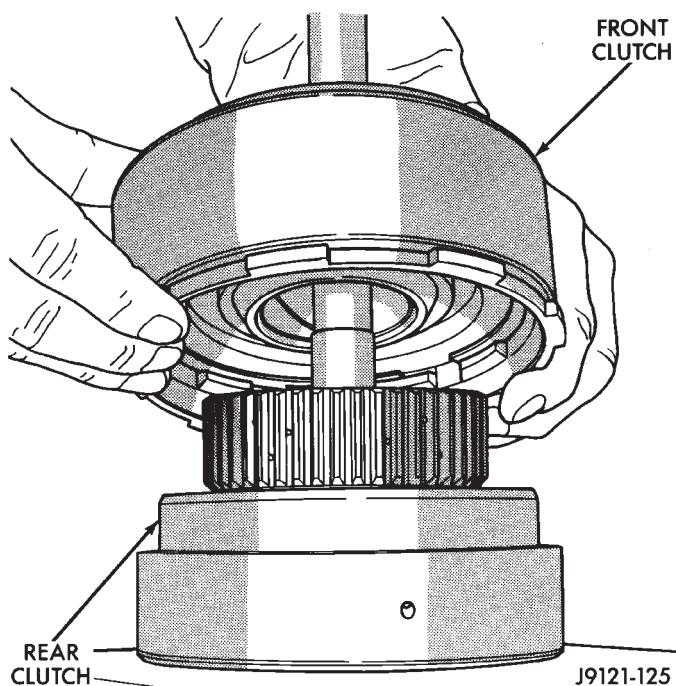

Fig. 19 Separating Front/Rear Clutch Assemblies
- (4) Disconnect and remove both propeller shafts.
- (5) Disconnect vehicle speed sensor and transmission output shaft speed sensor wires.
- (6) Disconnect electrical wires from clips on transmission and transfer case.
- (7) Disconnect transfer case shift linkage at transfer case range lever. Then remove linkage bracket bolts and remove linkage and bracket from transfer case. Move linkage aside for clearance.
- (8) Remove nuts attaching transfer case to overdrive unit gear case.
- (9) Remove transfer case. Support transfer case with transmission jack. Secure transfer case to jack with safety chains. Then move transfer case rearward and off transmission.
- (10) Remove transfer case from transmission jack and place transfer case on bench.
- (11) Support transmission with transmission jack.
(29) Lift front clutch off rear clutch (Fig. 19). Set clutch units aside for overhaul.